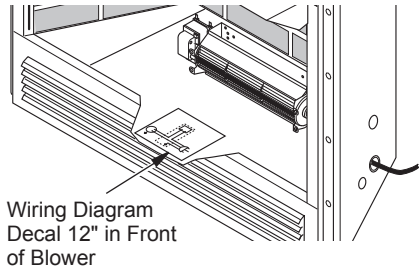

Figure 28 - Location of Wiring Diagram Decal (Model May Vary From Illustration)
10. Peel off backing paper and stick supplied wiring diagram decal on firebox bottom approximately 12" in front of blower (see Figure 28).
11. Peel off the backing paper and stick the supplied wiring diagram decal on the firebox bottom approximately 12" in front of the blower (see Figure 28, page 18).